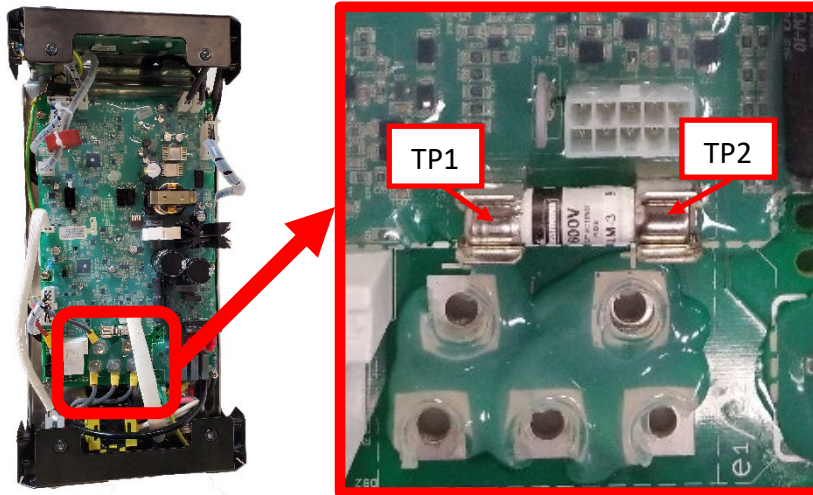

Figure F.2
A.2 Perform the static measurements in Test Table 1, refer to Figure F.2 for test point locations. **NOTE: DO NOT DISCONNECT WIRES, PLUGS FROM THE INPUT POWER BOARD.**